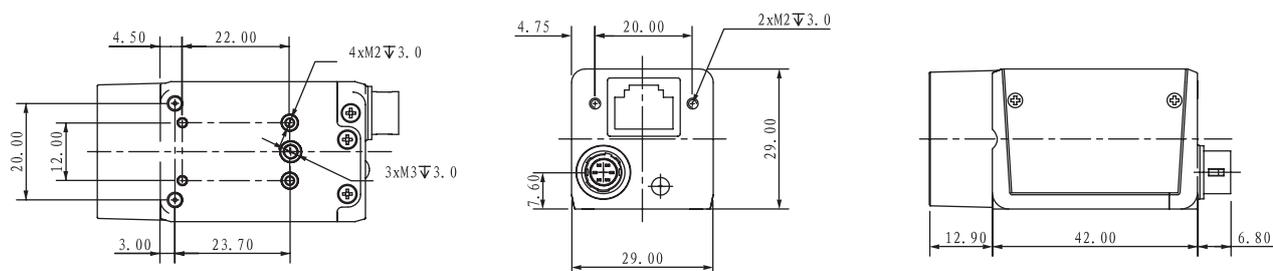

Fig. 1-1: Mechanical Dimensions (in mm) for GigE Cameras with 29\*29\*42mm housing (without GPIO).
- GigE Cameras with 29\*29\*42mm housing are as shown in Figure 1-1.